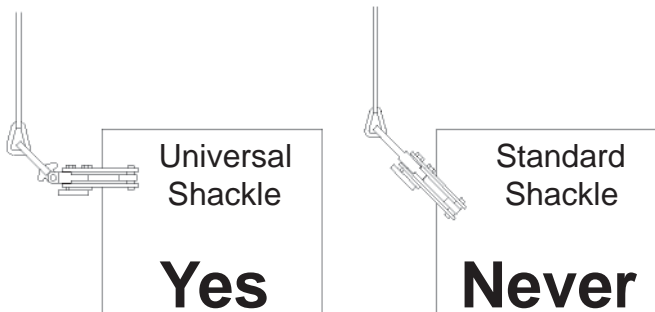

Figure 2: Never lift material from the side with a “VL” series clamp unless using a Model “VL” or “AVL” with the Universal Shackle.
6. Do not lift material from the side with a “VL” series clamp (Fig. 2) unless using a Model “VL” or “AVL” with the Universal Shackle.
- Do not lift material from the side with a “VL” series clamp (Fig. 2) unless using a Model “VL” or “AVL” with the Universal Shackle.